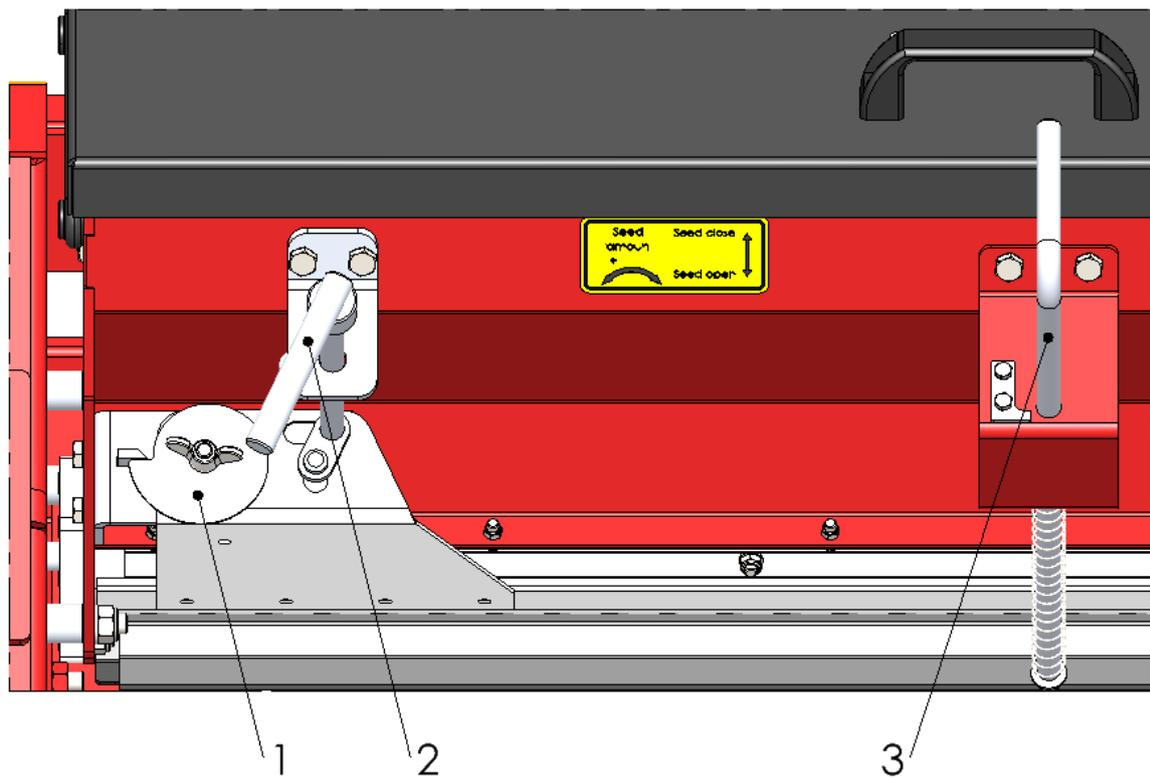

Figure 6
The Cultipack Seeder has a mechanism with which you can accurately set the quantity of seeds. This mechanism consists of two stainless-steel plates containing openings that can shift in relation to each other. This shifting ensures that the openings in the plates more or less overlap, so that a greater or smaller number of seeds can pass. The plates are operated by using the left-hand handle (2) (see Figure 6).
3. Put the handle (2) for the quantity of seeds in the minimum position (Figure 6).
7. Put the handle (2) for the quantity of seeds in the maximum position.
2. Put the handle (2) for adjusting the seeds in the minimum position (Figure 6).
7. Estimate the correct settings of the adjuster cam and turn the cam (1) to the estimated value. If you cannot estimate a value, then 65 is a good starting point (see Figure 6).
8. Turn the handle (2) that affects the quantity of seeds to the maximum position (see Figure 6).
9. Put the right-hand handle (3) in the 'seed open' position.
10. Start the motor, cover the 20 metres, Put the handle (2) for adjusting the seeds in the minimum position (Figure 6). and switch off the motor.
11. Remove the seed tray (1) from the machine and empty the tray into a container, jar or other holder.
13. If the Cultipack Seeder has distributed too much or not enough seeds, the adjustment cam (1) must be repositioned. Estimate what would be a better setting and turn the cam accordingly (see Figure 6). Subsequently, repeat this procedure.